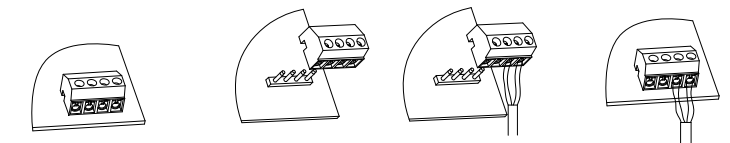

Figure 1 Figure 2 Figure 3 Figure 4
1. Remove the connection terminals from the circuit board (as shown in Figure 1 and Figure 2);